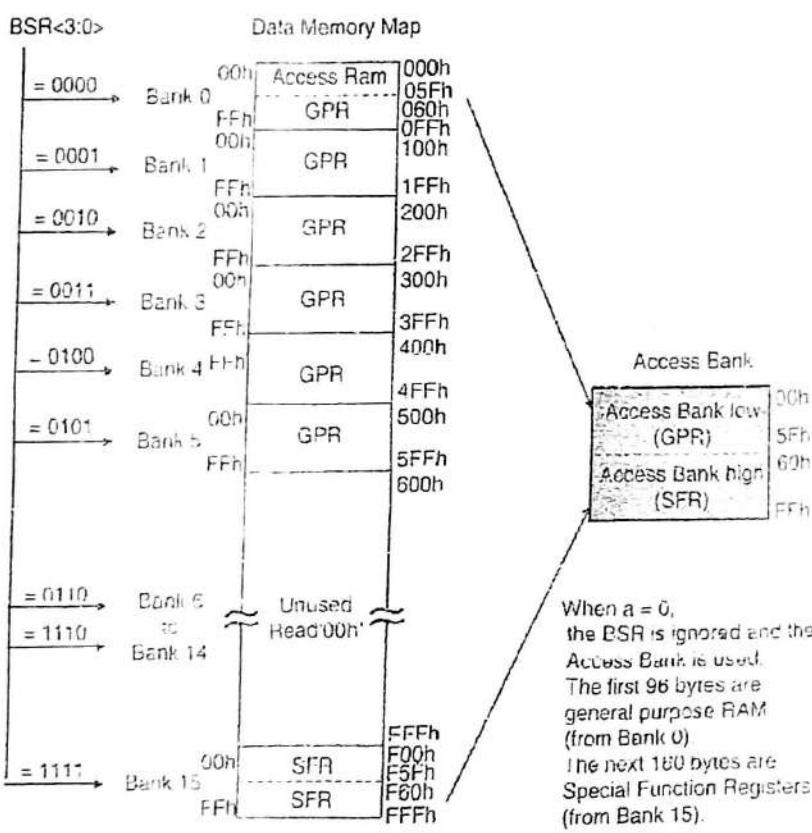

Fig. 1.13.2 : Data memory map of PIC18
The data memory is implemented using SRAM (Static RAM). Each location in the data memory is also referred to as a register. The PIC18 microcontroller supports 4096 bytes of data memory locations. Hence, it requires 12 bits of address to select one of the data registers. The data memory map of the PIC18 microcontroller is shown in Fig. 1.13.2.
The SFRs begin from the highest address (as shown in Fig. 1.13.2) and go downward, whereas GPRs must be used from address 0 and go upward. The first 96 bytes (i.e. in bank 0, 000H to 05FH) of the GPRs and the last 160 bytes (i.e. in bank 15, F60H to FFFF) of the SFRs are grouped into a special bank called access bank.
- The SFRs begin from the highest address (as shown in Fig. 1.13.2) and go downward, whereas GPRs must be used from address 0 and go upward. The first 96 bytes (i.e. in bank 0, 000H to 05FH) of the GPRs and the last 160 bytes (i.e. in bank 15, F60H to FFFFH) of the SFRs are grouped into a special bank called access bank.